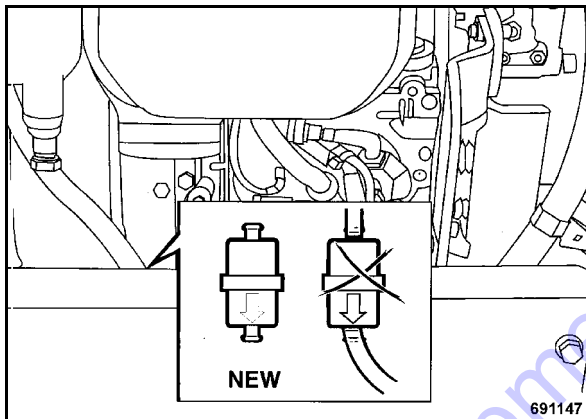

Fig. 66
- Pull the fuel filter (Fig. 66) out of the top and bottom hoses.